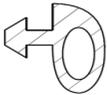

FIG 4
4. Take silicon seal, and push into seal groove around all 4 internal edges (fig 5 & 6). Ensure trim is the correct way round with larger section on the underside of blind (fig 4).